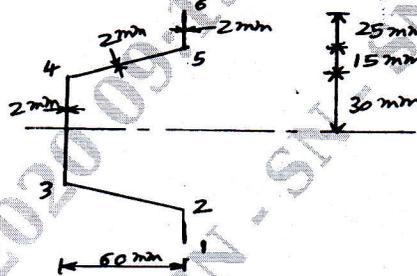

Fig.Q2(b)
- b. Calculate the position of the shear center of the thin walled section shown in Fig.Q2(b).